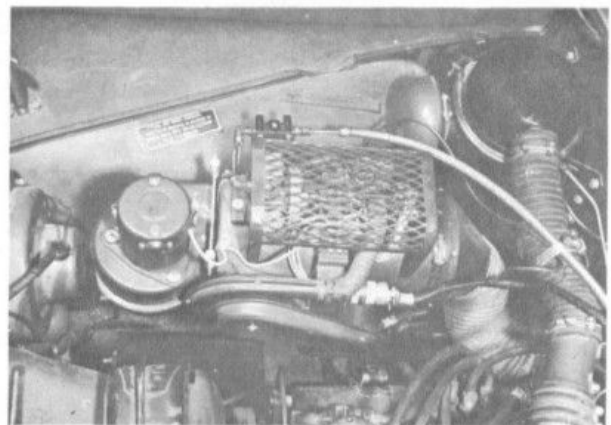

Figure 13
2. Place the heater on the mounting plate, making sure the washer and "O" ring are in place around the exhaust outlet, and install the heater clamping band and bracket (Figure 13).
3. Connect the short section of copper fuel line between the elbow in the filter on the heater mounting plate and the fuel inlet fitting the heater (Figure 13).
4. Using the two duct clamps provided, connect the section of 4-inch flexible ducting between the heater outlet adapter and the air inlet adapter on the firewall (Figure 13).
3. Run the heater fuel line behind the carburetor and over the carburetor air intake to the fuel filter on the heater mounting plate. Connect the fuel line to the filter and also secure it to the carburetor air intake with the hose clamp provided (Figure 13).